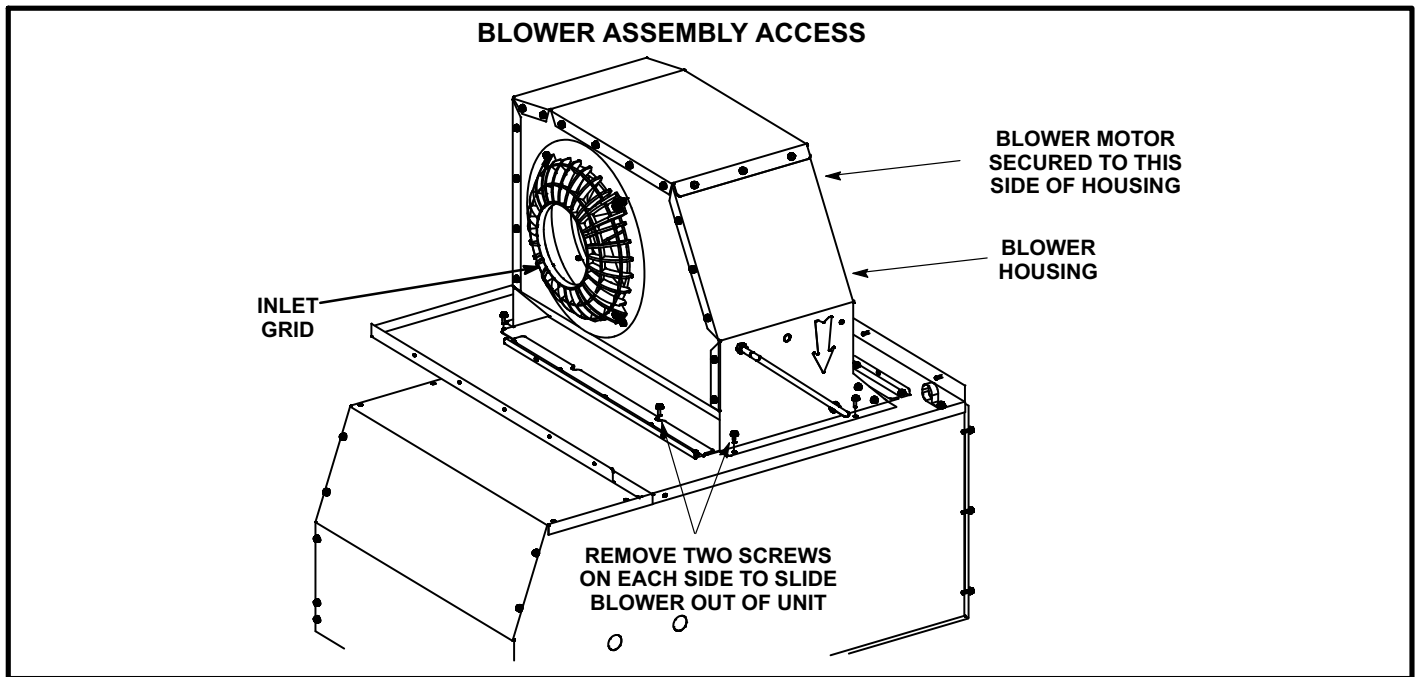

FIGURE 9
- 2- Remove and retain screws in front and on either side of blower housing. Pull frame toward outside of unit. See figure 9.